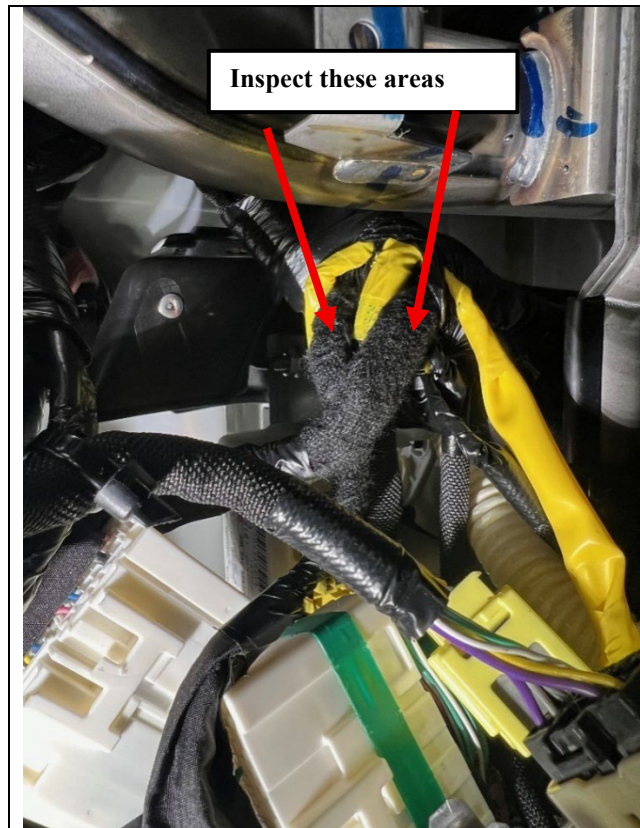

Figure 17
21. Inspect each black wiring harness going to H98 and H99 for signs of chafing. (See Figure 17.)